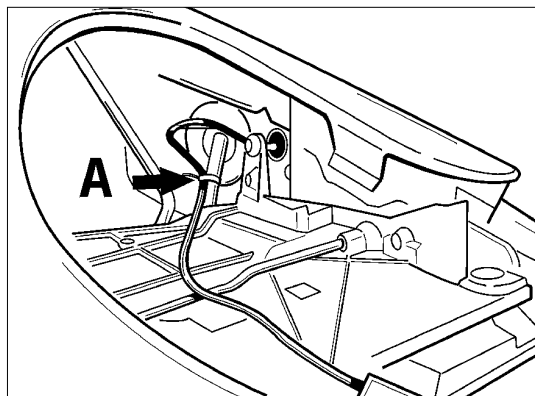

Figure 5
- 3.8 Attach the harness in the wheel housings to nearby components/wires (Figure 5, Item A).